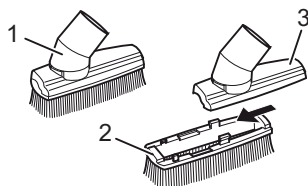

Fig. 6
- **Furniture brush (Fig. 6/1):** Use this nozzle to remove dust from objects with delicate surfaces (e. g. cupboards and tables).
- **Upholstery nozzle (Fig. 6/3):** By simply taking off the brush attachment (Fig. 6/2) you can transform the 2-in-1 combi nozzle into an upholstery nozzle (Fig. 6/3). Use this to clean soft, scratch-resistant surfaces (e. g. upholstered furniture).